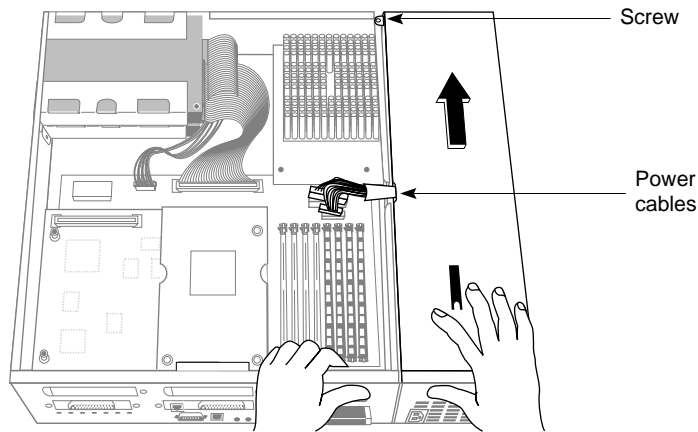

Figure 9-29 Removing the Power Supply
6. Disconnect the two power cables that connect the power supply to the system board. (Refer to Figure 9-29.)
- Place your right hand on the power supply and your left hand on the chassis a few inches from the power supply, as shown in Figure 9-29.